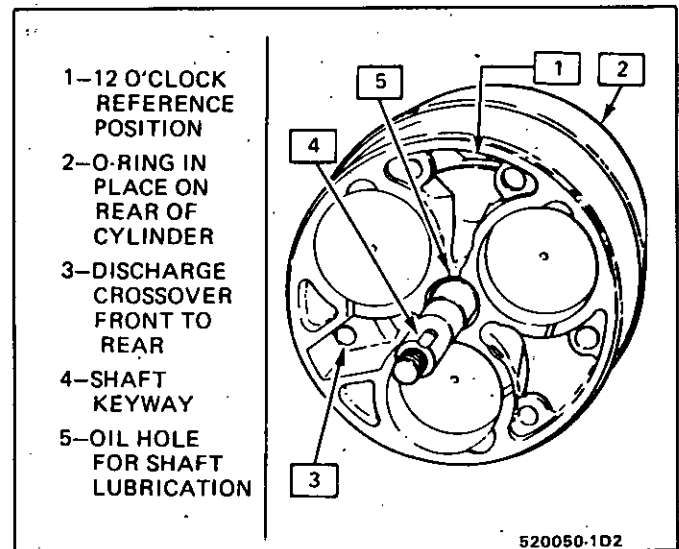

Fig. 49 Front View and Detail of DA-6 Cylinder and Shaft Assembly
8. With the O-ring in place on the rear of the cylinder, remove the cylinder and shaft assembly from the front head and assemble over the guide pins using the hole locations indicated in Fig. 49.